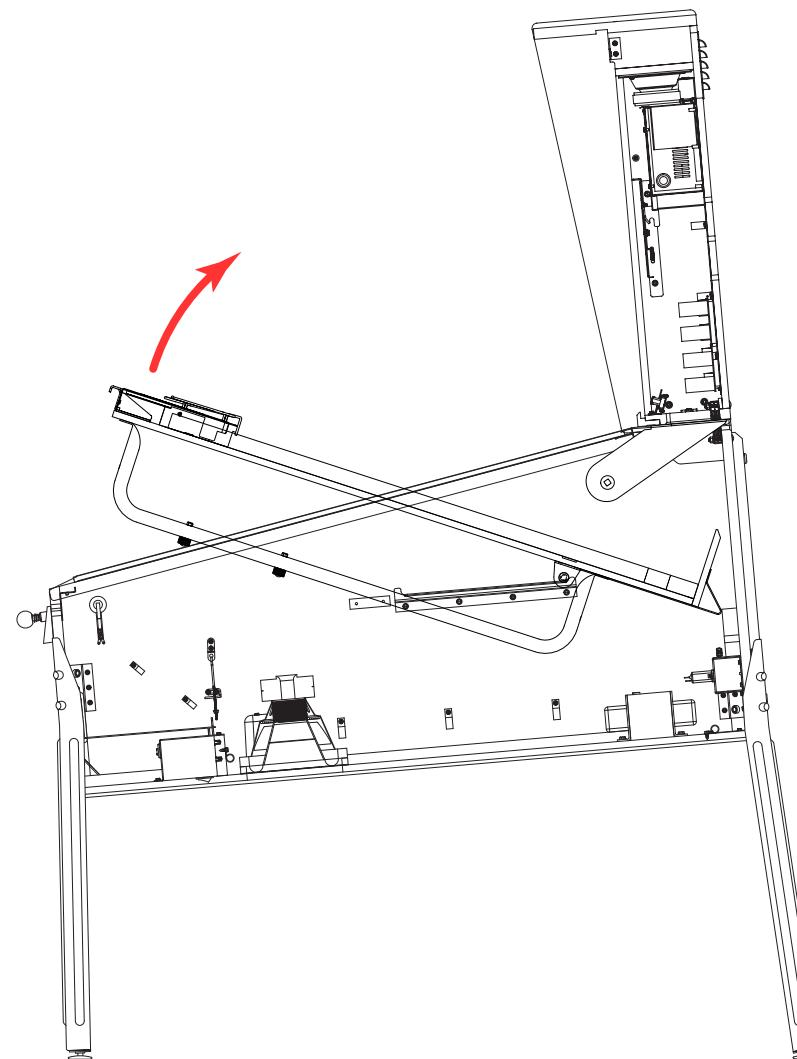
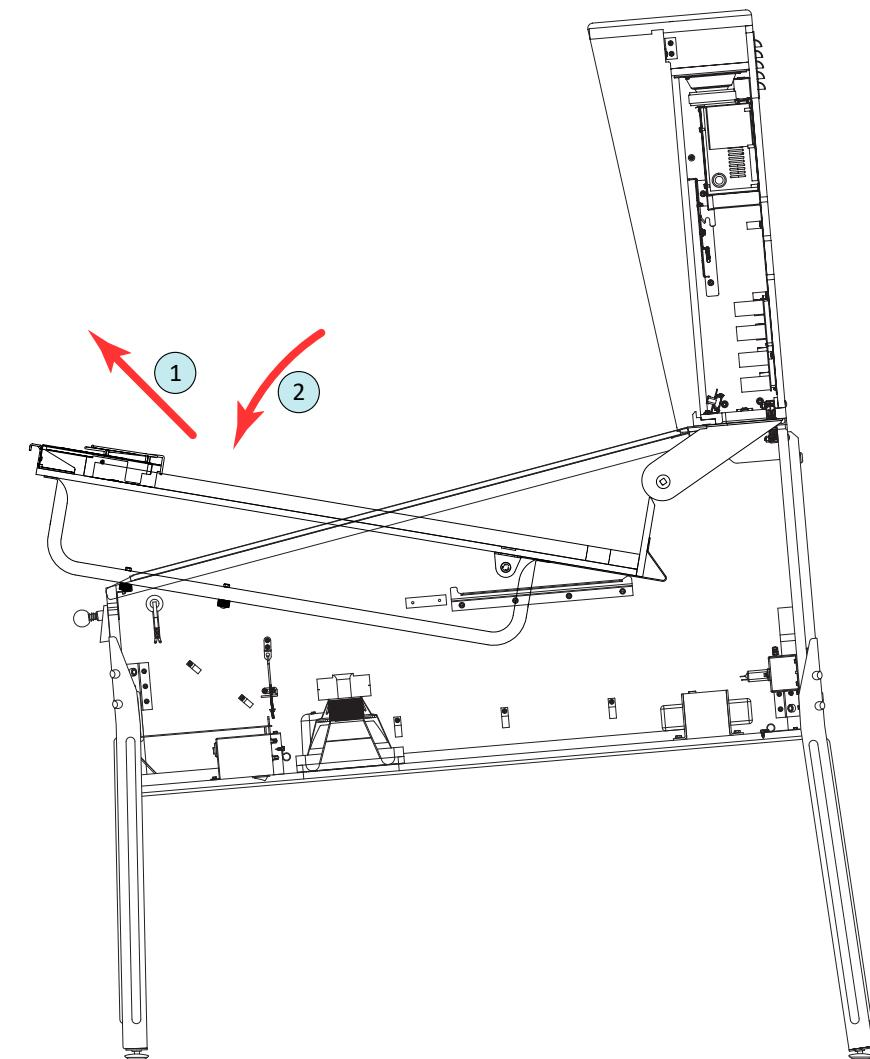

Figure A11. Swing the playfield upward.
Figure A12. Moving the playfield to position 2.
13) Grasp the playfield under its bottom arch and swing it upward until the playfield support tubes underneath are fully visible (figure A11). Move the playfield to position 2 (figure A12). Pull it upward and outward until the first pair of feet reach the top of the lockdown bar receiver; then lower the playfield, resting the feet in the steel channel.